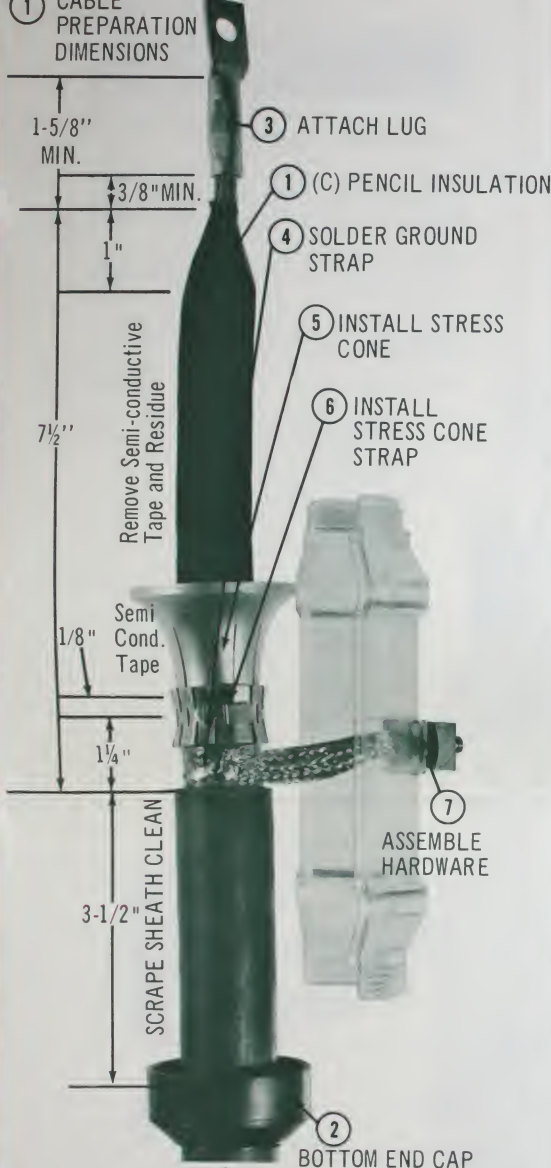

FIG. 1
- ① **CABLE PREPARATION** - Use exact dimensions as shown at left of Fig. 1.
If a conductor lug or terminal pin is NOT used at the dimension shown in Fig. 1, the conductor strands must be soldered completely closed for a minimum distance of 2 inches above the cable insulation.